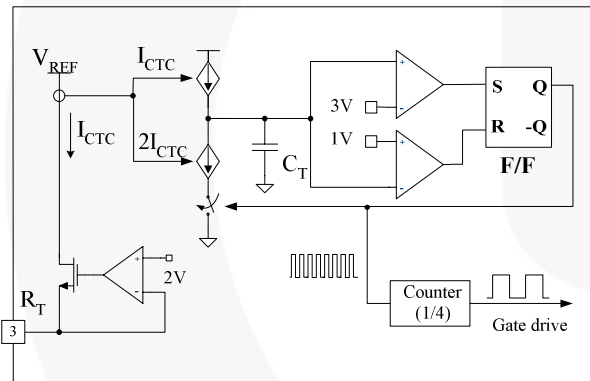

Figure 17. Current Controlled Oscillator
**2. Internal Oscillator:** FSFR-series employs a current-controlled oscillator, as shown in Figure 17. Internally, the voltage of  $R_T$  pin is regulated at 2V and the charging/discharging current for the oscillator capacitor,  $C_T$ , is obtained by copying the current flowing out of  $R_T$  pin ( $I_{CTC}$ ) using a current mirror. Therefore, the switching frequency increases as  $I_{CTC}$  increases.